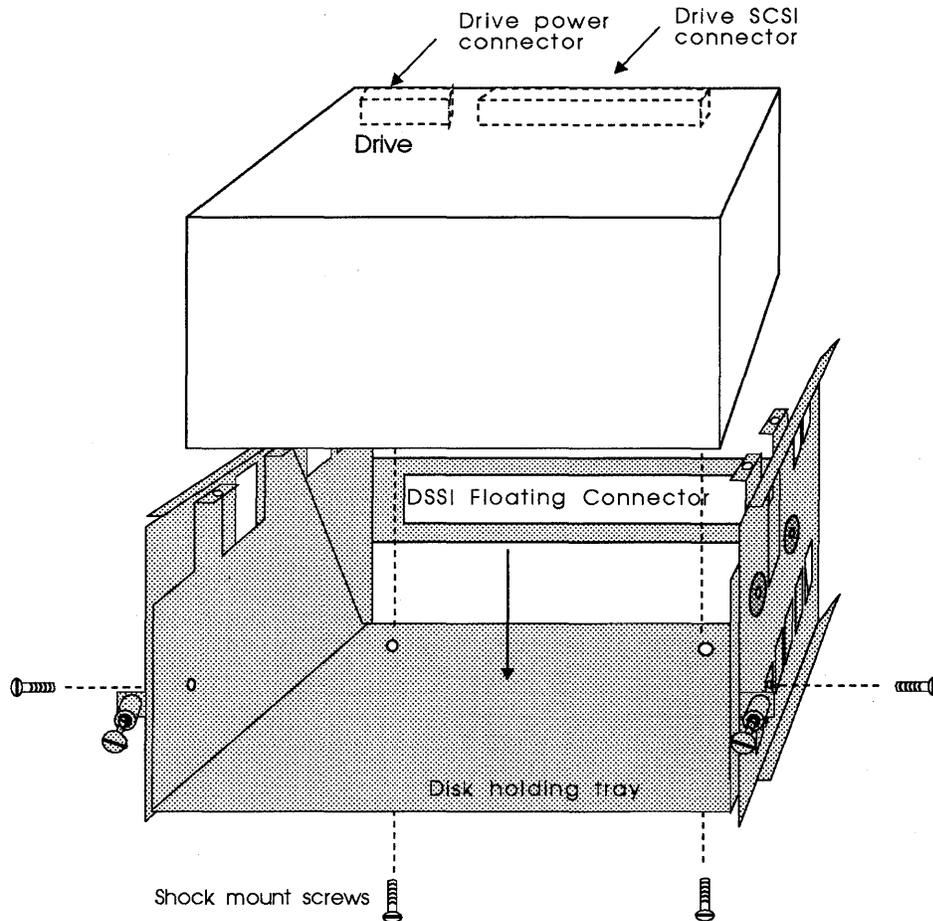

Figure 4-1: CDI-4000-SAE drive installation
- 2 Carefully install the drive into the disk holding tray of the ISE chassis. SCSI connector on the drive must face the floating connector on the ISE chassis. See Figure 4-1.
- 3 Put four shock mount screws into the drive through the disk holding tray; two screws are located in the back bottom and two are located on each side of the disk holding tray. See Figure 4-1.